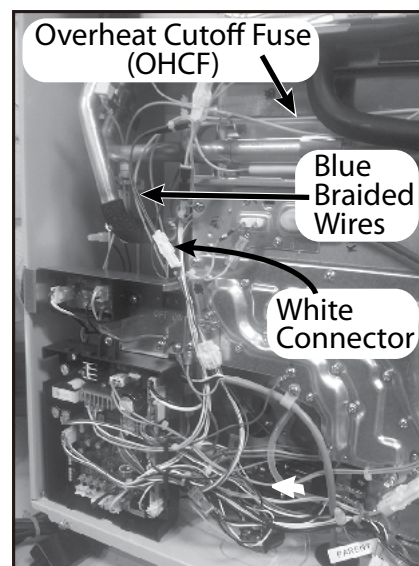

Figure 23.
2. Locate the white OHCF which wraps around the heat exchanger (Figure 23). See also Figure 41, p.
3. Find the white clip at the end of the two blue braided wires coming from the OHCF. (Refer to Figure 23 on page 35.)
5. Test resistance at the end of the OHCF with a digital volt/ohm meter (Figure 23). Resistance should measure 1 ohm or less. Reconnect the plug.